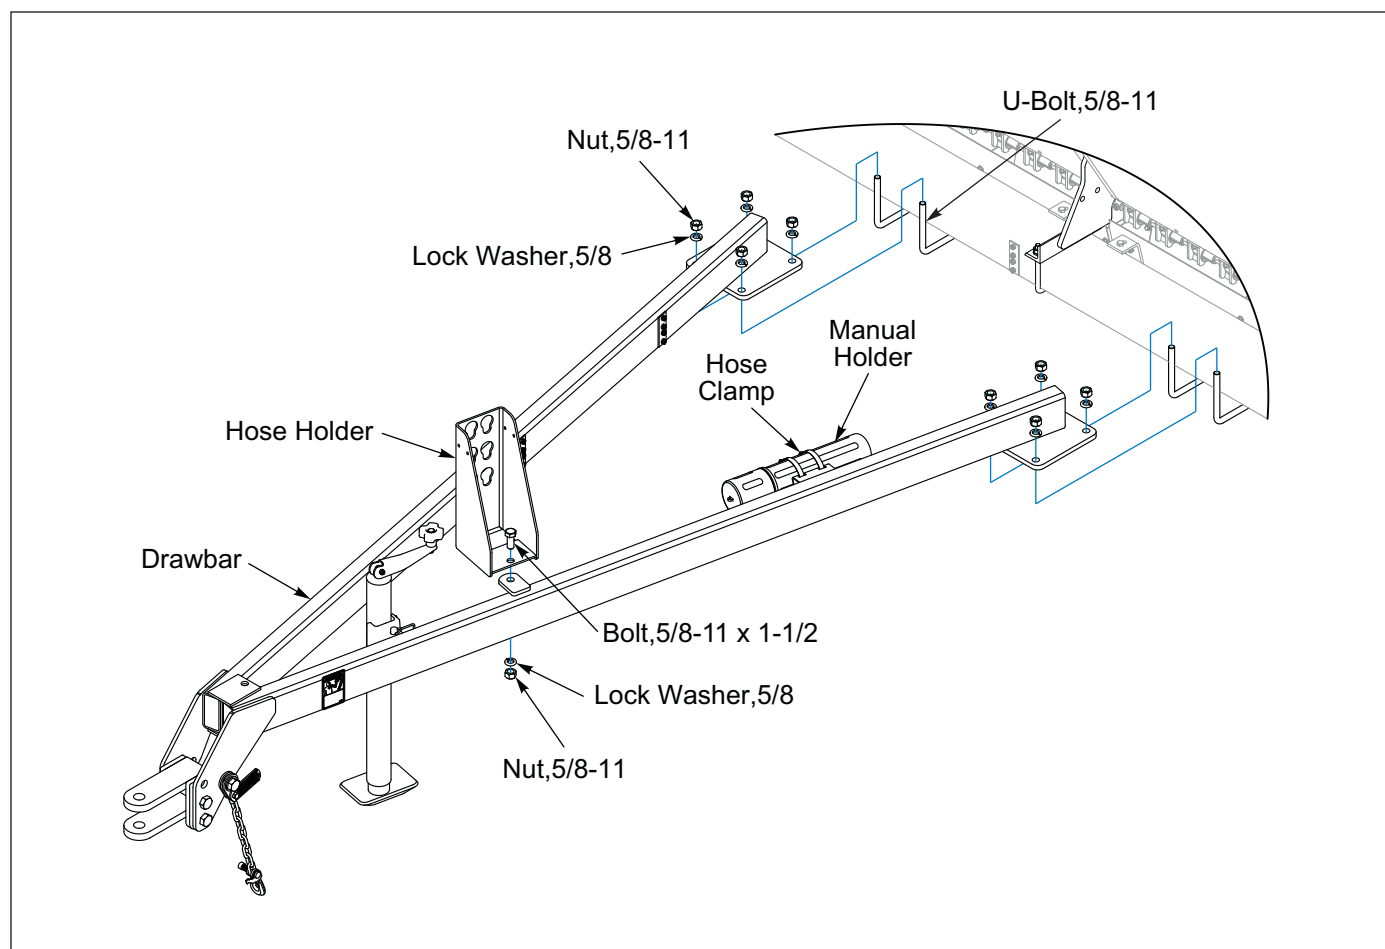

Figure 2-10: Drawbar Installation (Before 08/2025)
2. Center Drawbar in relationship with the Seed Box Center Bracket. Attach Drawbar to Seeder Frame Tube with 5/8-11 U-Bolts, Lock Washers and Nuts. **See Figure 2-10.**